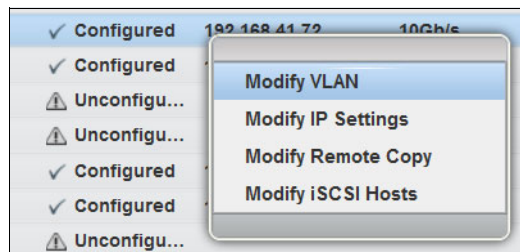

Figure 7-63 Modifying the VLAN
2. Select the 10-Gbps port that is connected to the Brocade Switch for using iSCSI traffic, right-click, and select **Modify VLAN**, as shown in Figure 7-63.